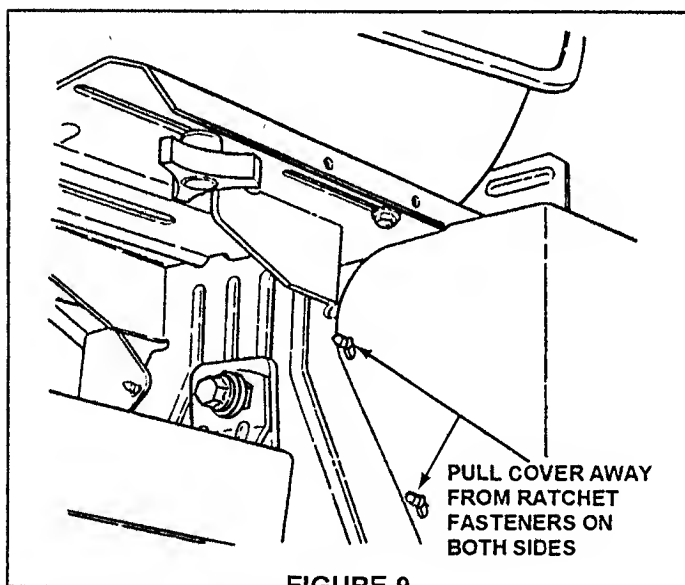

FIGURE 9
- Remove battery cover by pulling each side away from ratchet fasteners. See Figure 9.